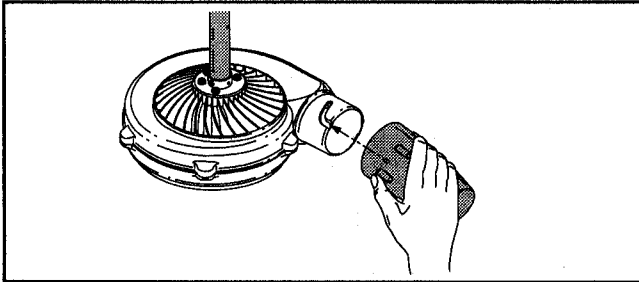
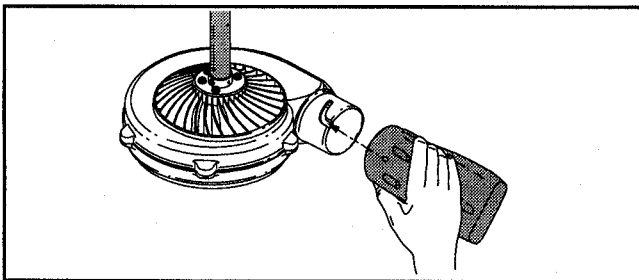

Fig. 6a
Fig. 6b
1. Align the indexing button on the inside of the nozzle with the detent on the housing (Fig. 6a for the concentrator nozzle, and Fig. 6b for the flare nozzle).